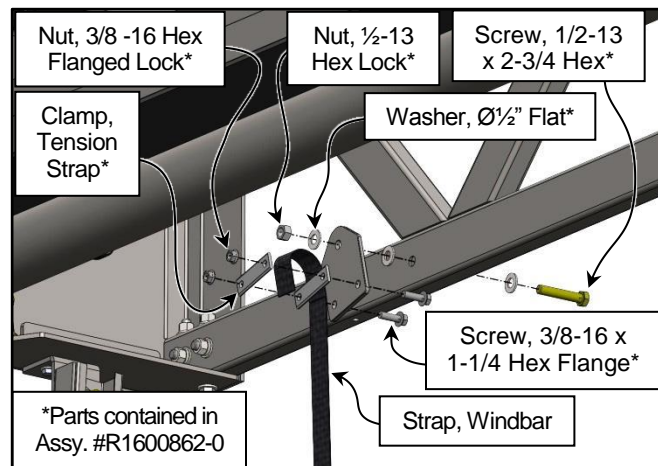

Figure 58
8. Pull both the Windbar Straps taught. Secure the straps in the front mounted Strap Clamp Assemblies as shown. (See Figure 58)